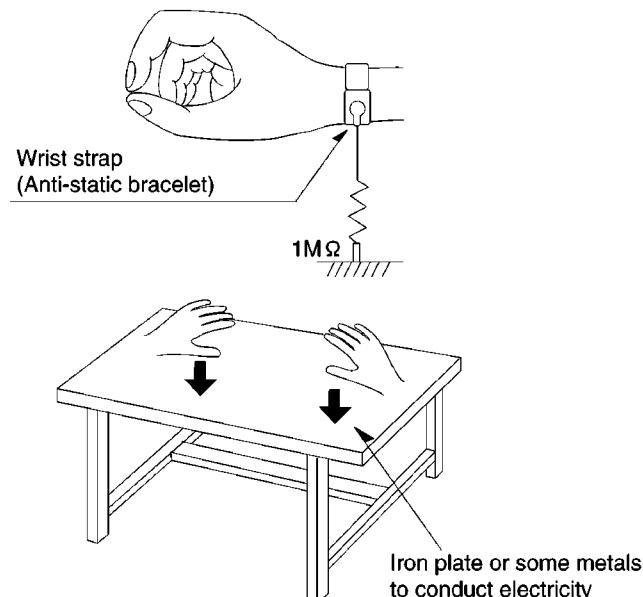

Fig. 6-1
1. Ground the workbench by laying conductive material (such as a conductive sheet) or an iron plate over it before placing the traverse unit (optical pickup) on it. (Refer to Fig. 6-1.)
1. Use an anti-static wrist strap to release any static electricity built up in your body. (Refer to Fig. 6-1.)